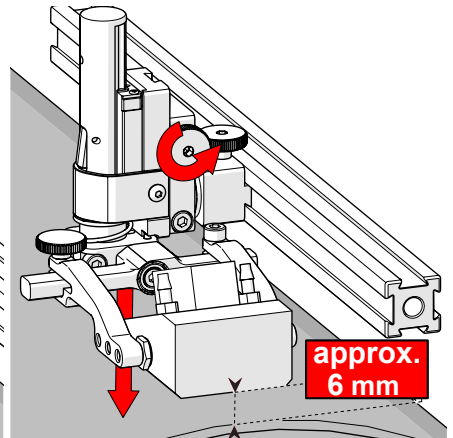

Fig. 96 - Lower toward scan surface
2. Loosen the vertical adjustment knob and slide the probe holder down until the wedge is approximately 6 mm (¼ in) above inspection surface (Fig. 96).
3. Tighten the vertical adjustment knob (Fig. 96).